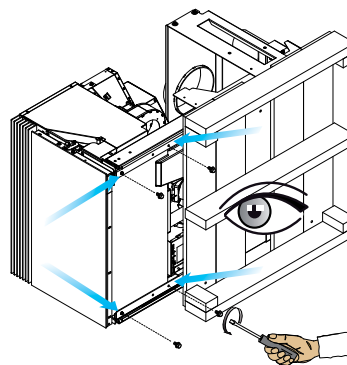

fig. 6.1.5
- 5) Unfasten the four screws fastening the rails on the bottom wall of the insert (fig. 6.1.5).